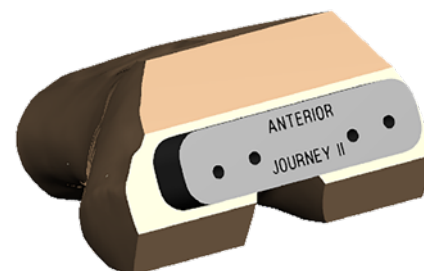

Figure 31
1. Attach the downsizing drill guide to the cut femur, placing the spikes on the back of the plate into the same location holes used for the A/P cutting block (Figure 31).